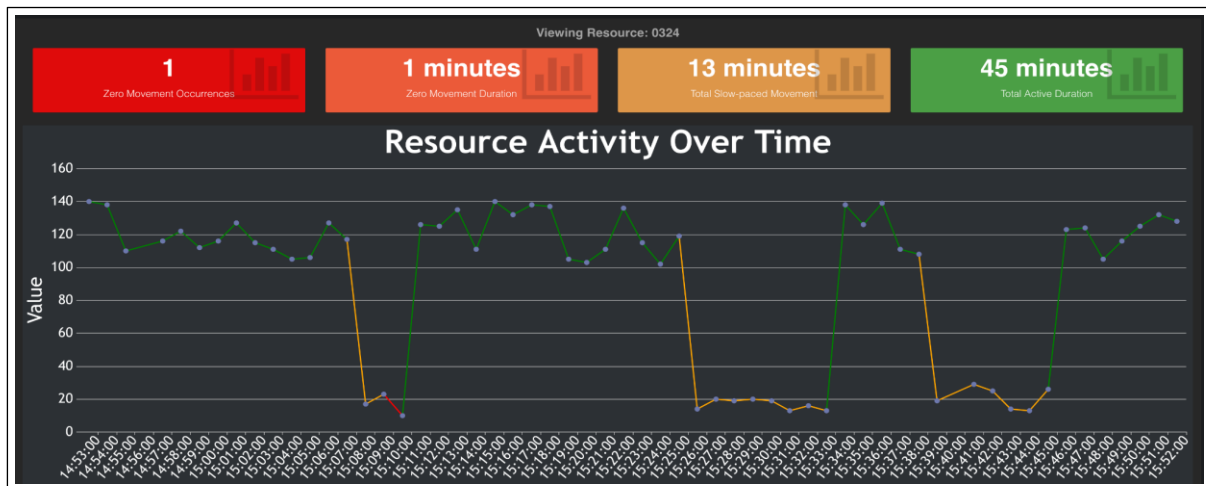

Figure 14. Selected Resource activity for a day
- Movement analysis to detect low-activity zones (see Figure 14)